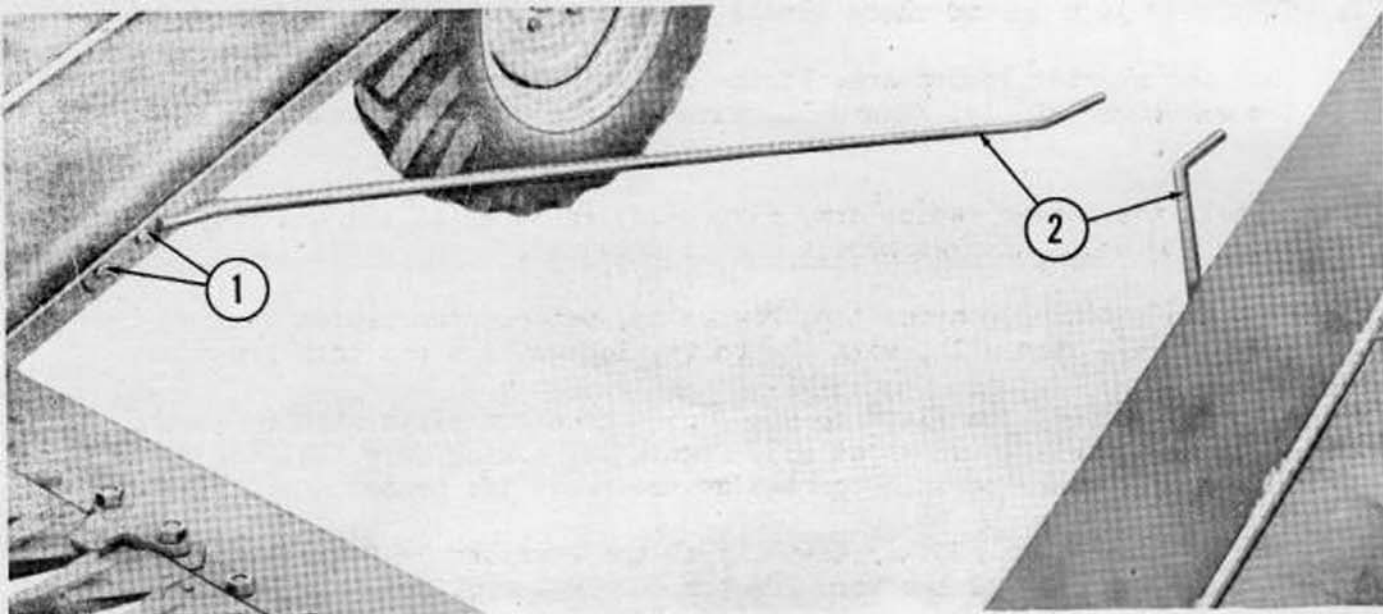

Figure 16
- a. Attach the right and left hay rods (2), Figure 16, in the center opening of the header as shown, using two $\frac{3}{8}$ " x 1" hex head bolts (1) lockwashers and nuts in each rod.